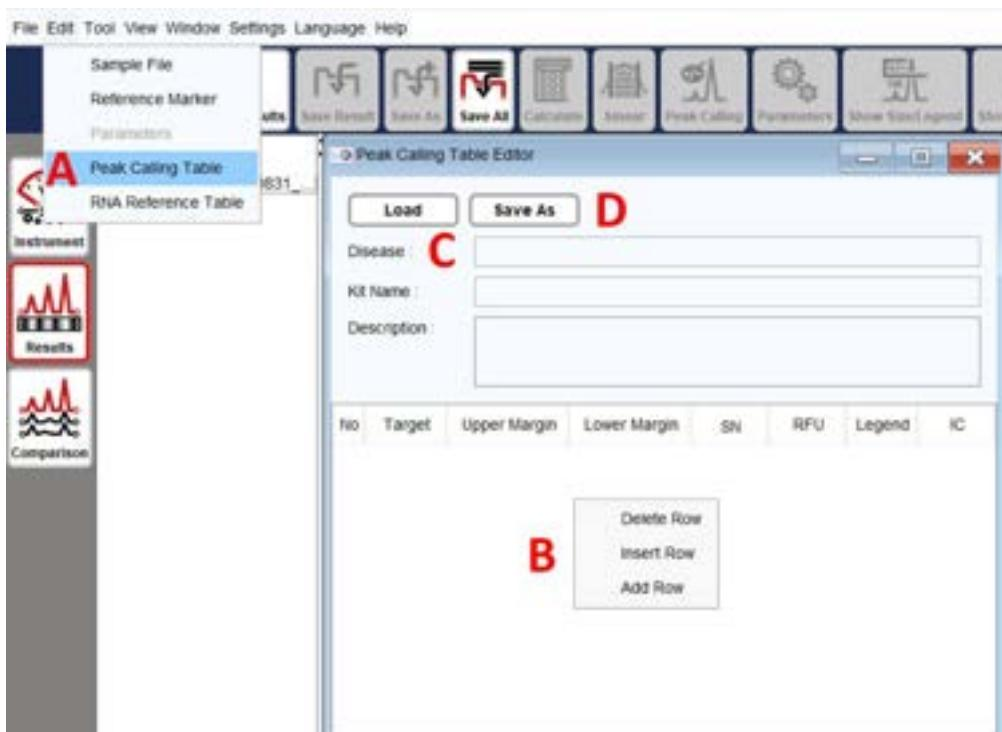

Figure 50 Peak Calling Table
1. Click on **Edit → Peak Calling Table** to open the Peak Calling Table Editor (Figure 50 A).
2. Right-click and select **Add Row** to add a new panel (Figure 50 B).
3. Set up the new table by entering criteria in the respective columns (Figure 50 C) and save it as a new file (Figure 50 D) in the default folder.